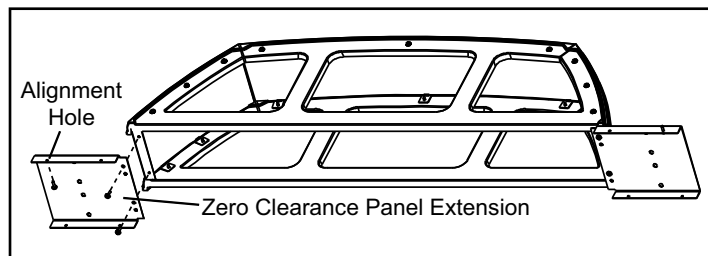

Figure 18.3
6. Attach the zero clearance panel extensions. **Figure 18.3**